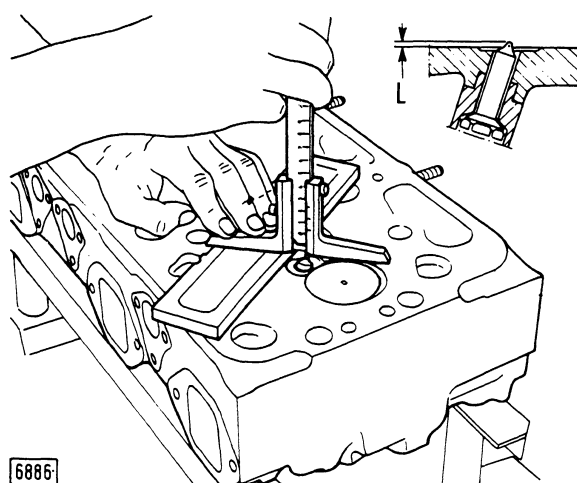

Fig. 9 - Checking injector nozzle stand-out from cylinder head.
- Injector nozzle stand-out (L) from cylinder head is as indicated in fig. 9.